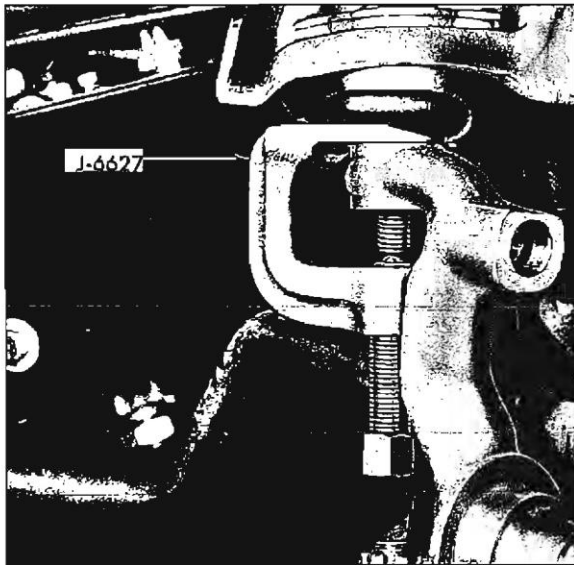

Fig. 3-13 Pressing Ball Stud from Steering Knuckle
7. Disconnect upper and lower ball stud from steering knuckle, using tool J-6627 (Fig. 3-13) and remove brake drum and steering knuckle as an assembly.
3. Disconnect upper and lower ball stud from steering knuckle, using tool J-8627 (Fig. 3-13) and remove brake drum and steering knuckle as an assembly.